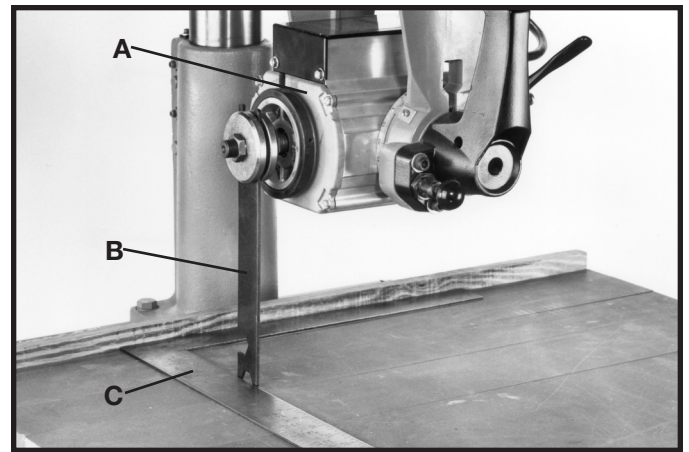

Fig. 50
2. Remove blade guard assembly and saw blade from the cuttinghead assembly (A) Fig. 50, and insert wrench (B) between arbor flanges in place of blade as shown. Tighten arbor nut.
3. Place a steel square (C) Fig. 50, against fence as shown, and lower cuttinghead assembly (A) so that wrench (B) just clears the table top.
4. Pull cuttinghead assembly (A) Fig. 50, along square (C). If wrench (B) does not travel parallel to the square (C), the following adjustment is necessary.